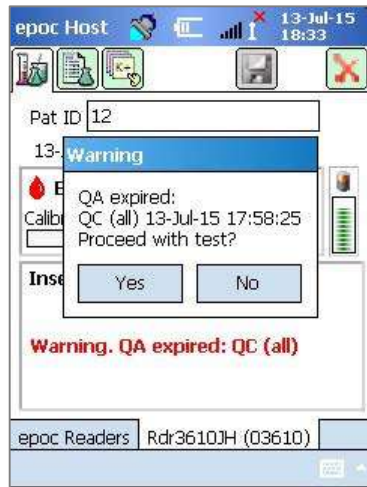

Fig. 41.
- Additionally, after a Test Card is inserted into the epoc Reader, a pop-up message will appear, asking if the user would like to proceed with the test (Fig. 41).